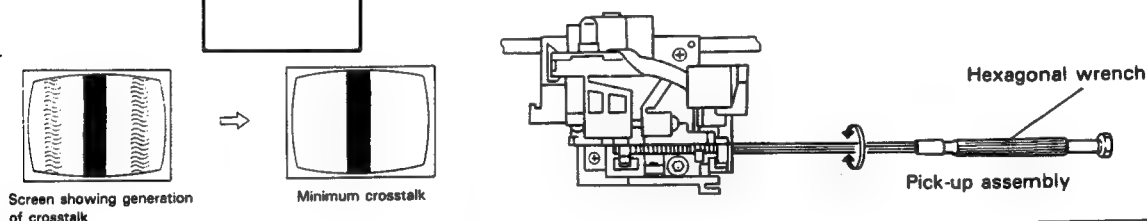

Fig.20
6. Insert the hexagonal wrench into the adjustment hole in the rear panel, and adjust the pick-up tracking direction inclination adjustment screw to minimize the crosstalk on the left and right hand sides of the TV screen. (Fig.20)